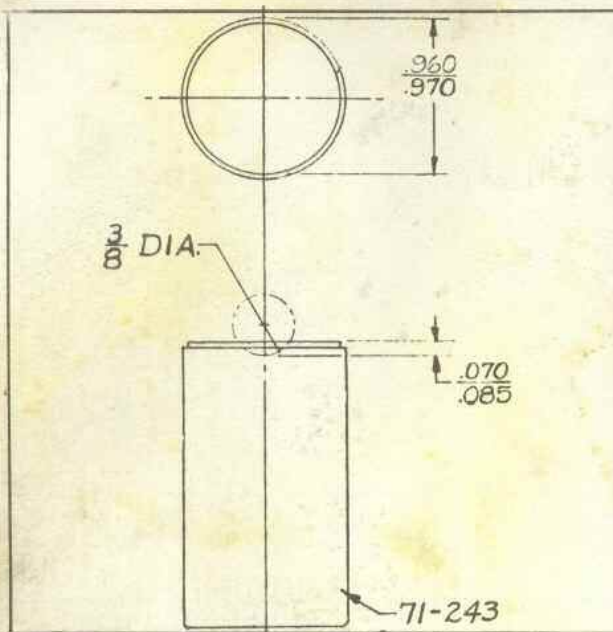

Fig. 101 Reoperation to Eliminate Regulator Valve Buzz
16. New pressure regulator valves (71-243) have a relief at the outer diameter at the closed end for the elimination of regulator valve buzz, (Fig. 101). If a transmission should have a valve buzz and contains a 71-243 pressure regulator valve which does not have the relief, the valve should be replaced, or reoperated as illustrated.